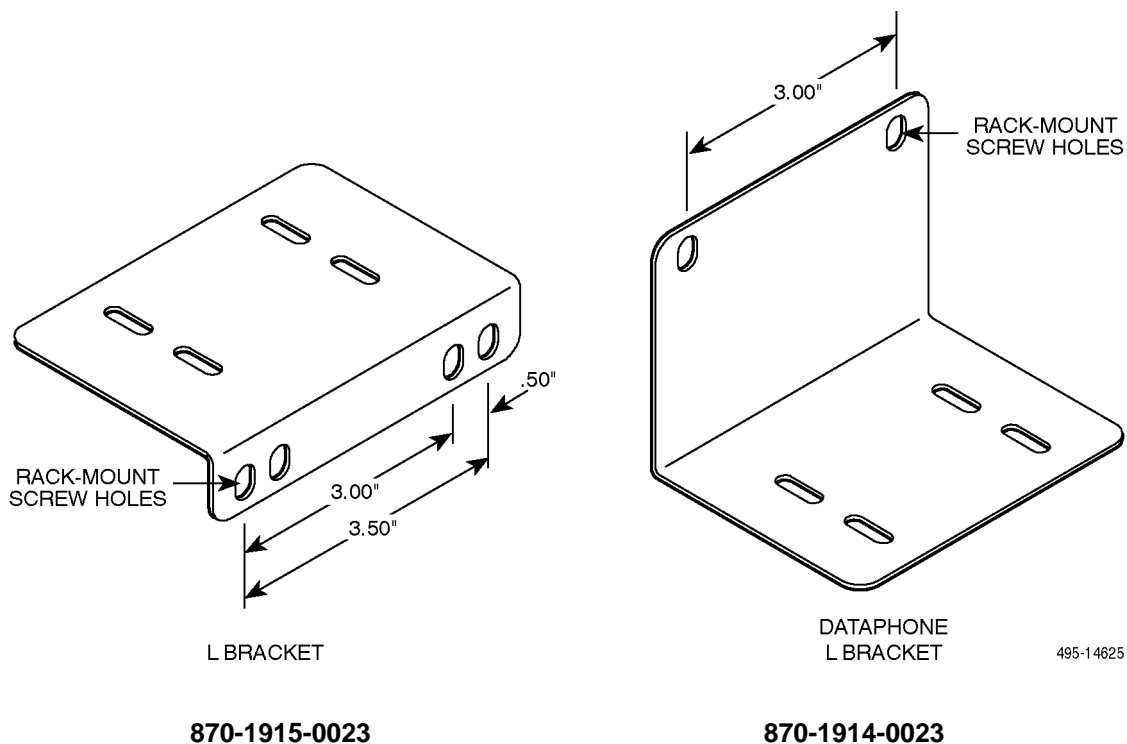

Figure 2. RS-310-C and DATAPHONE L Brackets
1. Determine which L bracket you need to use. Refer to Figure 2.